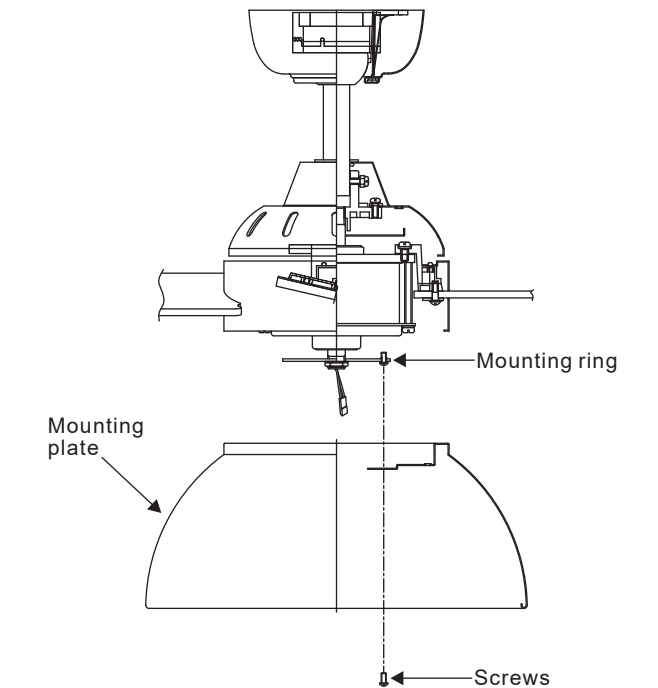

Figure 12
**Step 2.** Place the key holes on the mounting plate over the 2 screws previously loosened from the mounting ring, turn mounting plate until it locks in place at the narrow section of the key holes. Secure by tightening the 2 screws previously loosened and the one previously removed. (Fig. 12)